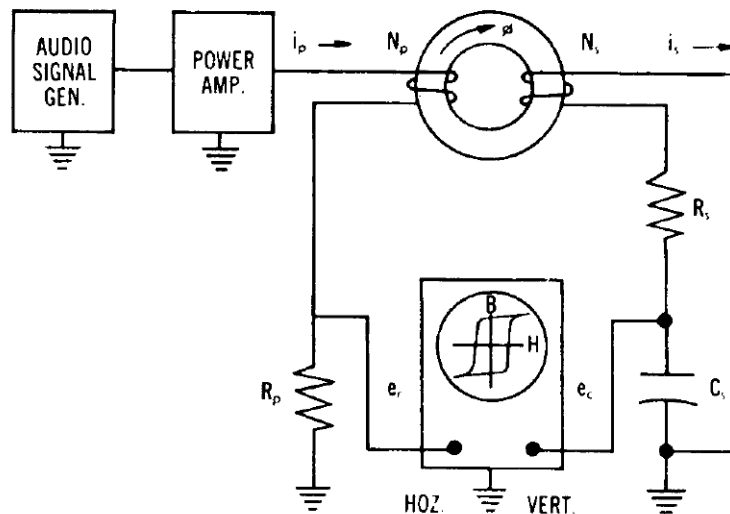

Figure 2. Diagram Of Dynamic Hysteresis Loop Equipment
Figure 2 shows a typical measuring circuit. It includes a means for impressing upon the vertical input of the CRO a signal which is proportional to the flux density (B) in the test specimen; and upon the horizontal input of the CRO a signal which is proportional to the magnetizing force (H) acting on the specimen under test.